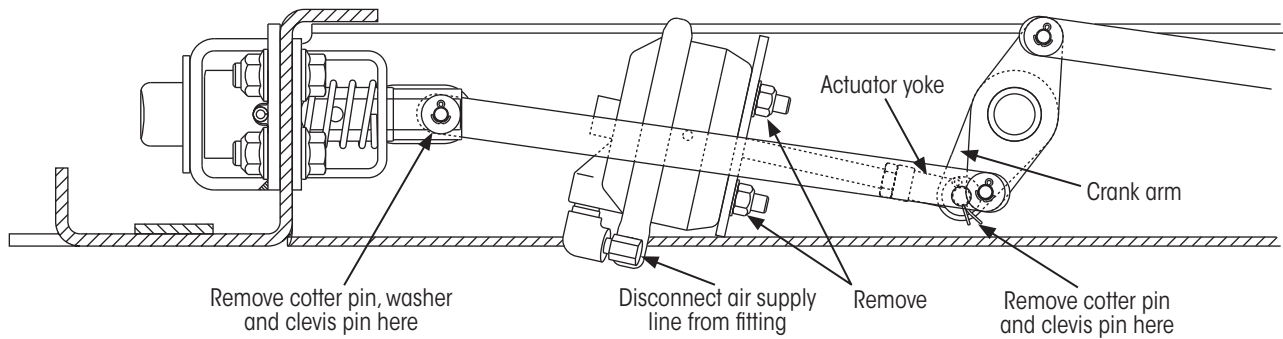

Figure 19: Actuator removal details
1. **Disconnect** the air supply line from the fitting on the bottom of the actuator (Figure 19).
5. **Remove** cotter pin and clevis pin attaching actuator yoke to crank arm on actuator linkage (Figure 19).
5. **Install** the actuator through the opening in the top of the front frame crossmember, and onto the mounting bracket inside the crossmember. The threaded studs on the mounting surface of the actuator must pass through the holes in the mounting bracket. The crank arm on the actuator linkage (Figure 19) must fit between the tangs of the actuator yoke, and the holes in the yoke must line up with the hole in the crank arm.
9. **Swing** the previously-disconnected actuator link upward, until the clevis pin hole lines up with the holes in the curbside locking pin (Figure 19). The end of the actuator link must fit into the slot in the locking pin.